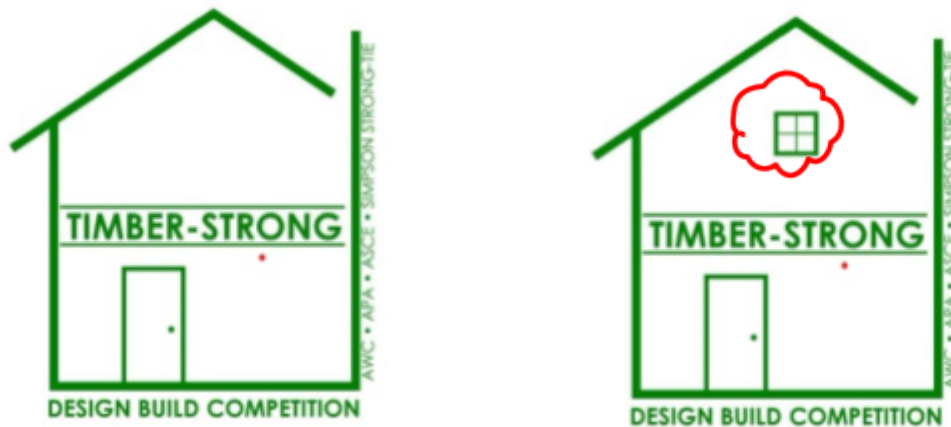

Figure 5: Example of clouded change
4. Newly altered plan/details/calculation must show area that will be changed with a cloud area for reference (see **Figure 5**).